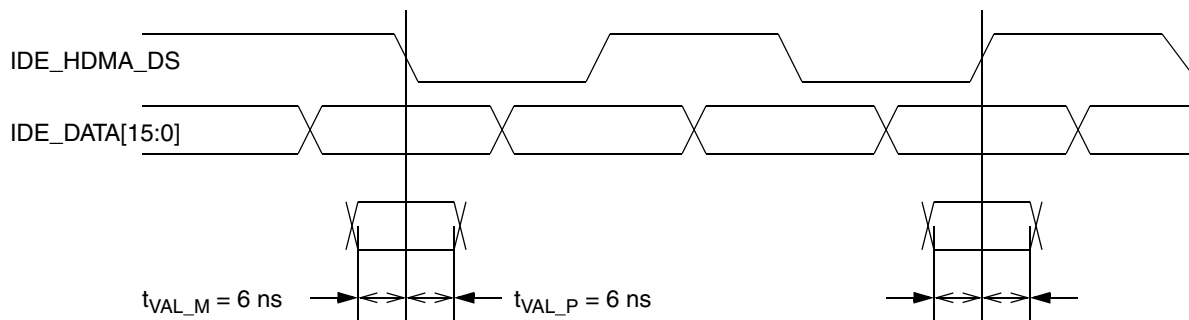

Figure 7-6. IDE UltraDMA Data Out Timing
- Note 3. This signal uses *Output Reference Timing* (see Figure 7-3 on page 581). Figure 7-6 illustrates IDE_HDMA_DS and IDE_DATA[15:0] relationship.